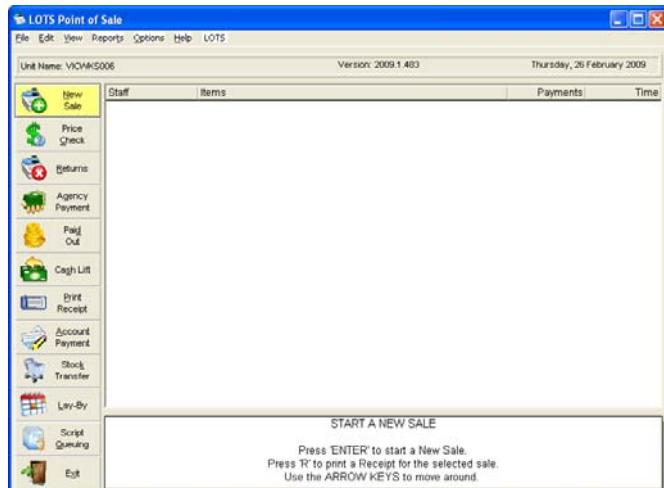

Figure 16
2. To Start a new sale select the 'New Sale' button (as shown in Figure 16).